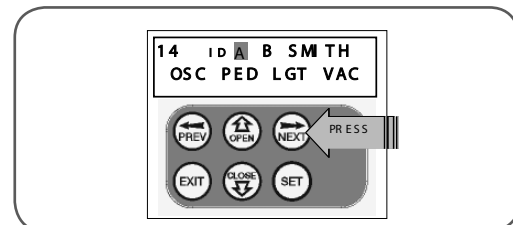

fig 28
1. Press NEXT or PREV to move select character to change (**Fig. 28**).